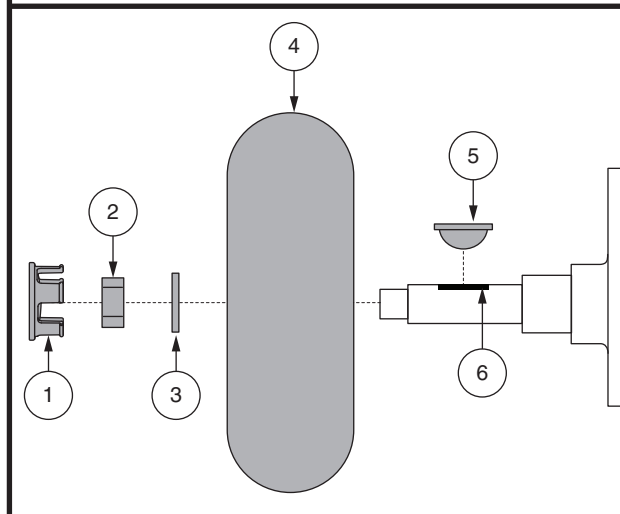

Figure 23. Wheel Removal
3. Remove the wheel cap, drive wheel nut and washer from the axle. **See figure 23.**
4. Remove the drive wheel nut and washer from the axle. **See figure 23.**
9. Slide the wheel back onto the axle. Make sure that the axle key is in the axle slot. **See figure 23.**